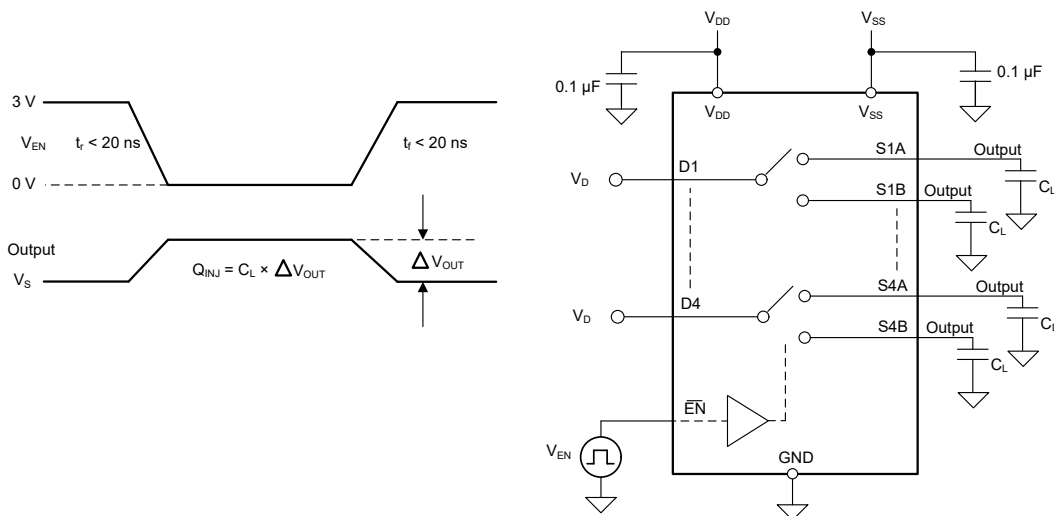

图 7-9. Charge-Injection Measurement Setup
The TMUX6234 has a transmission-gate topology. Any mismatch in capacitance between the NMOS and PMOS transistors results in a charge injected into the drain or source during the falling or rising edge of the gate signal. The amount of charge injected into the source or drain of the device is known as charge injection, and is denoted by the symbol Q_{INJ} . 图 7-9 shows the setup used to measure charge injection from source (S_x) to drain (D).